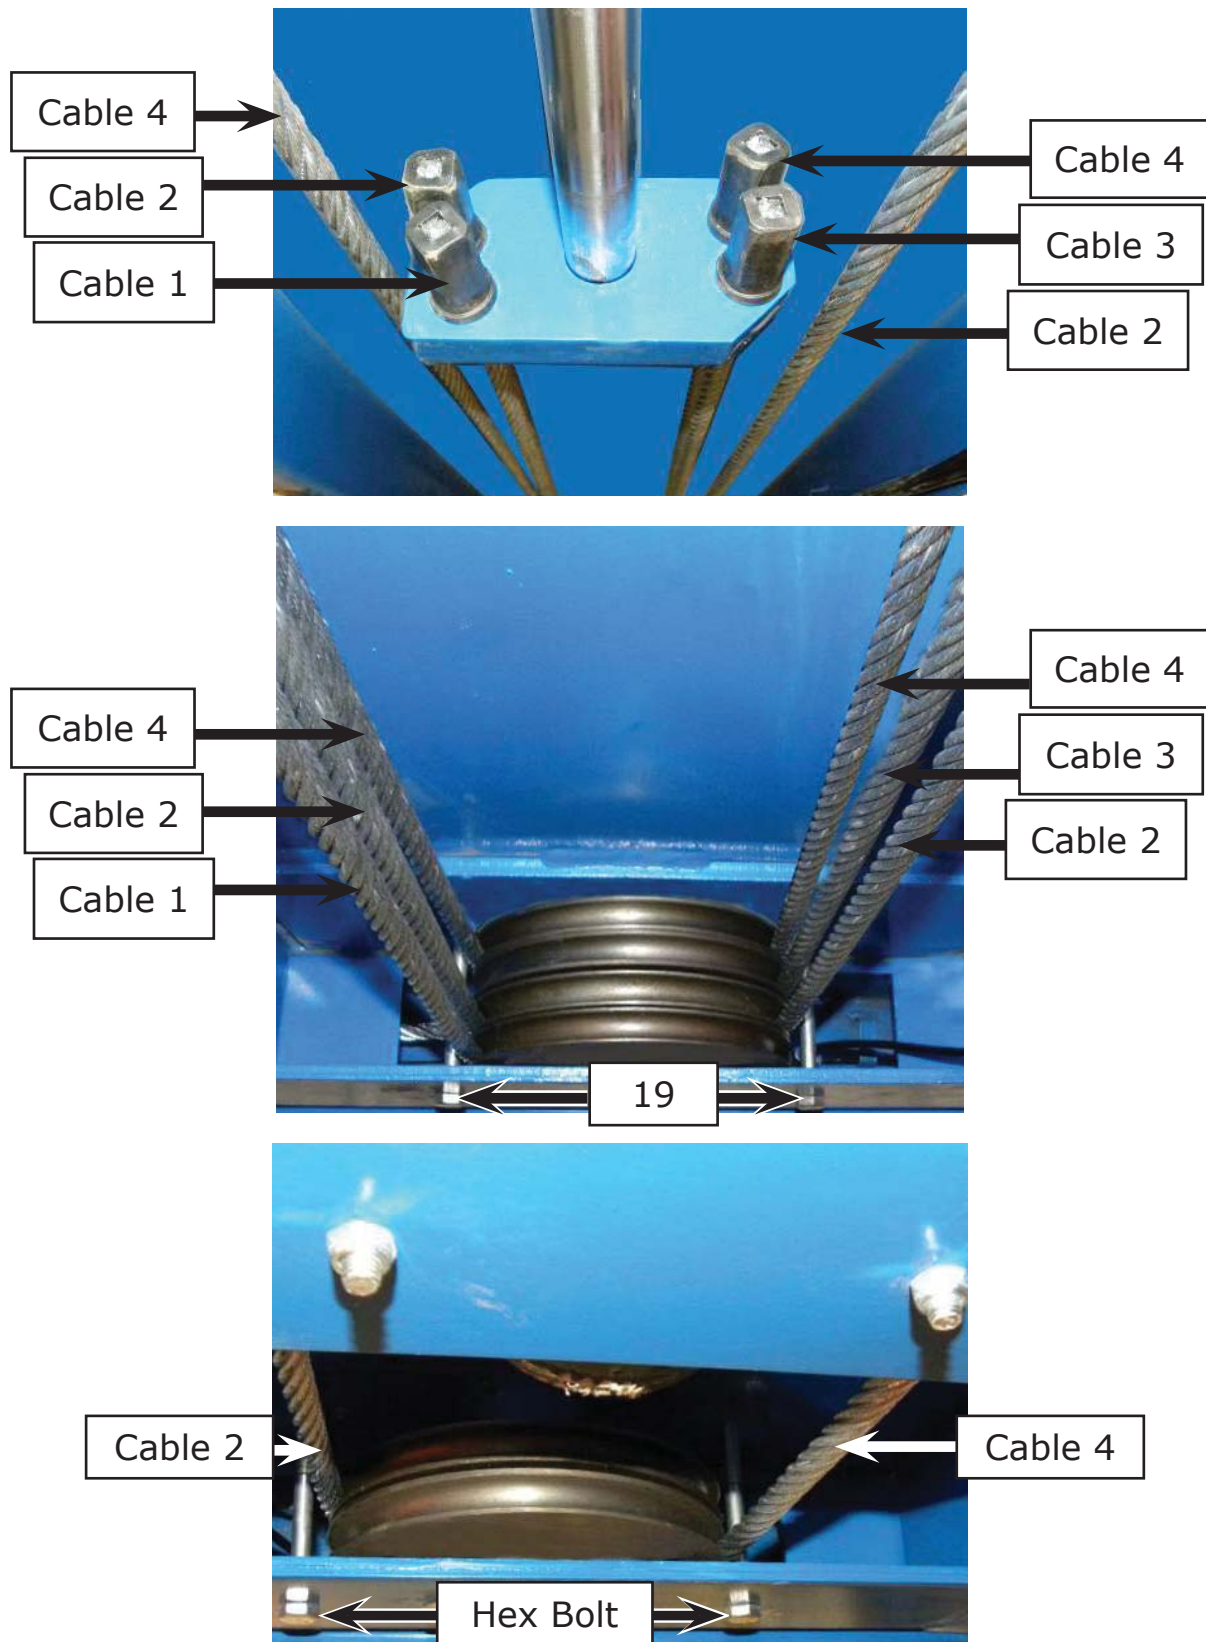

Fig. 22
1. After routing the cables through the pulleys, attach the cables to the connecting plate. (See Fig. 22).